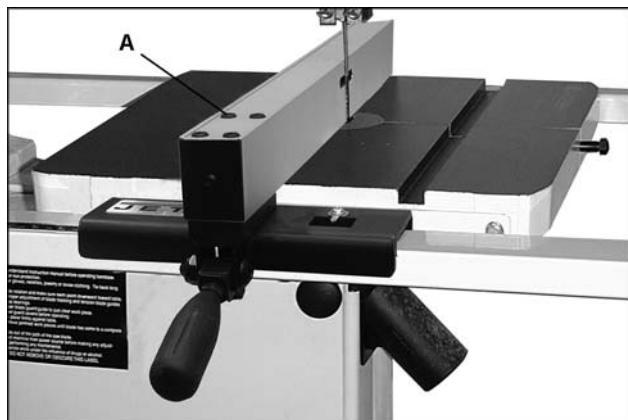

Fig. 4
5. Attach the fence to the fence body using four M6 socket head cap screws and four lock washers (A, Fig. 4).